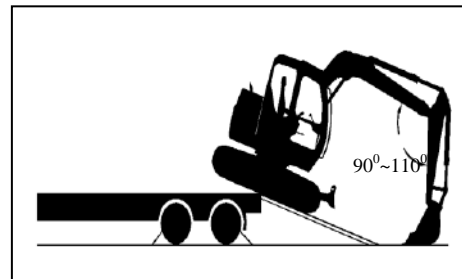

Figure 4.1.9
B. You must place the bucket to ground before the machine heel over (As figure 4.1.9).